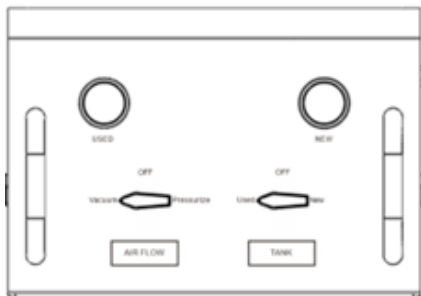

Fig 6.
3. On the panel turn the left valve "AIR FLOW" to "Vacuum" position and the right valve "TANK" to "Used" position (Fig. 6), open the valve on the used fluid hose (transparent) (Fig. 7), and then open the valve on the used fluid hose (Fig. 7), and then the antifreeze will start to flow and a vacuum will be created to -20inHg in both the used tank and the vehicle, and the antifreeze will start to flow. 7), and then open the workshop air valve and a vacuum down to -20inHg will be created in both the used tank and the vehicle, and antifreeze will start to flow from the vehicle into the used tank of the equipment, and the hoses of the vehicle will collapse;